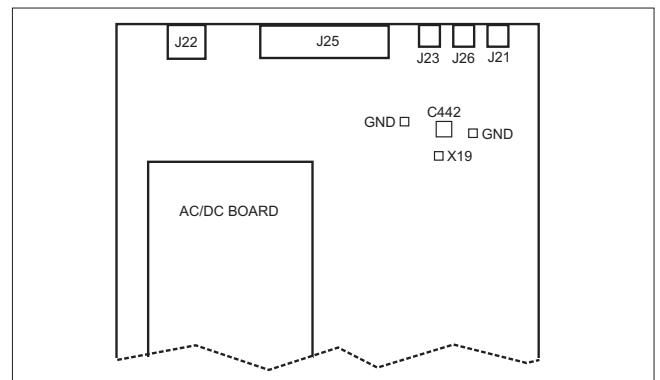

Figure 7-5 Adjusting the external reference input.
- Connect the probe to X19. There are two ground pads in the vicinity. See Figure 7-5.